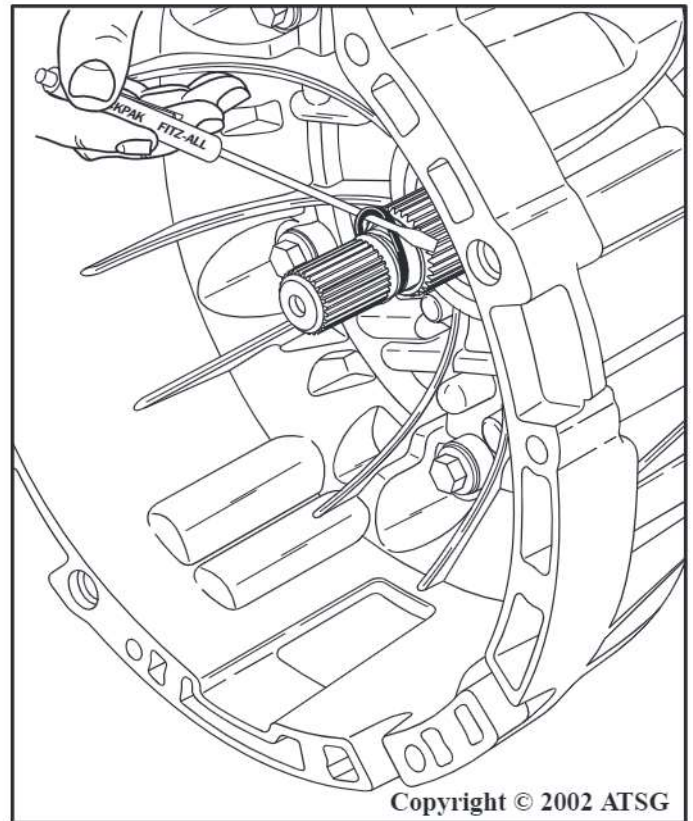

Figure 195
33. Install the turbine shaft "O" ring seal using a small screwdriver, as shown in Figure 195, and lubricate with small amount of Trans-Jel®.